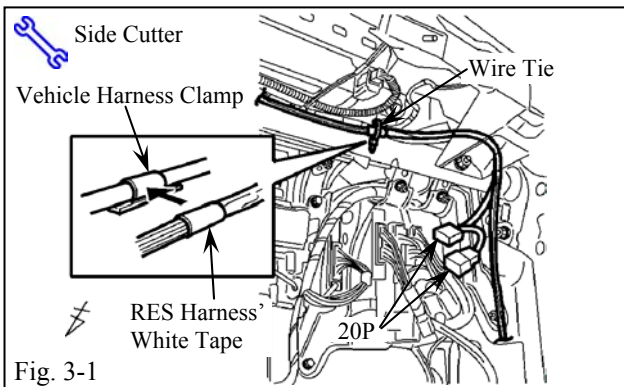

Fig. 3-1
- (a) Locate the Vehicle Harness Clamp in the Glove Box Area. Secure the White Taped Marker of the RES Harness to the Vehicle Harness Clamp with 1 Wire Tie. (Fig. 3-1)
- (1) Line up the RES Harness' White Tape Marker to the Vehicle Harness Clamp.